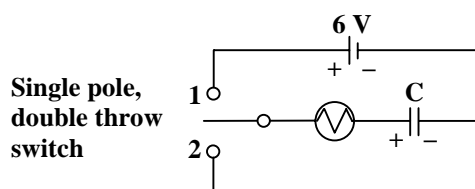

Figure 2-1: Circuit to examine the charging and discharging of a capacitor through a light bulb.
1. Set up the circuit shown in Figure 2-1 using the  $23,000\ \mu\text{F}$  capacitor. Be sure that the positive and negative terminals of the capacitor are connected correctly (because of the dielectric, electrolytic capacitors have a definite polarity).